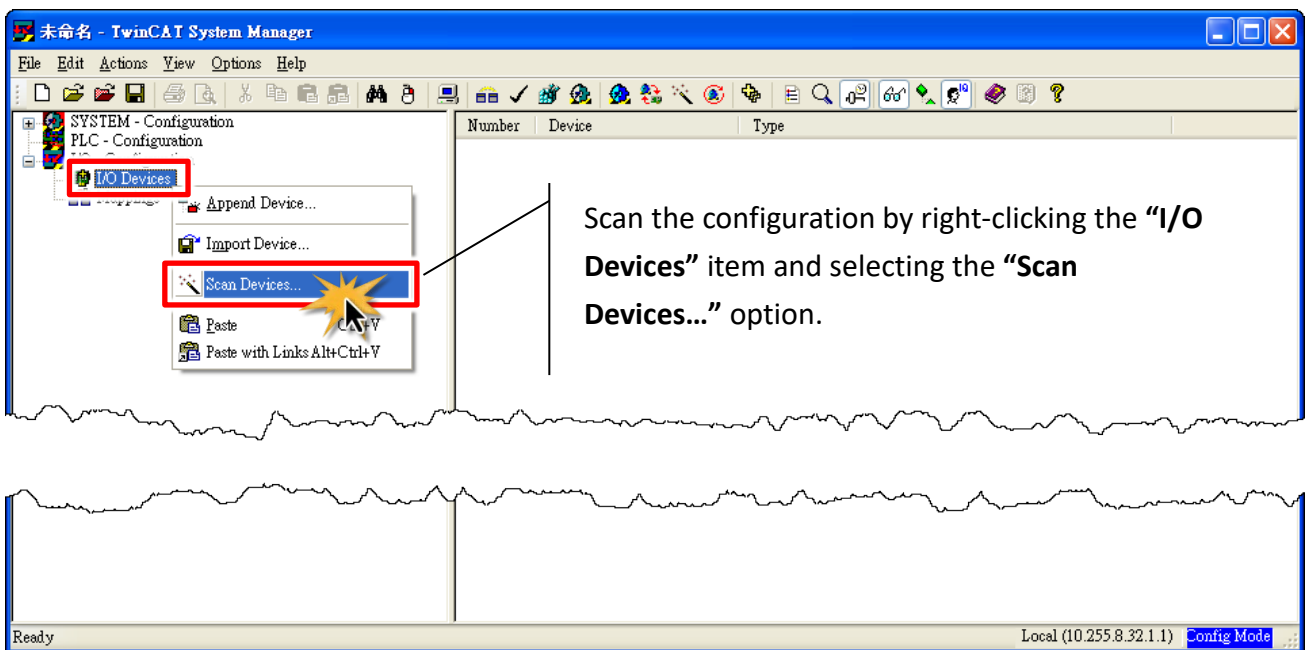

Figure 3-2.1
- 1 Switch on the operating power supply, launch the TwinCAT System Manager (Config mode), and scan in the devices, as illustrated in the Figure 3-2.1 below.